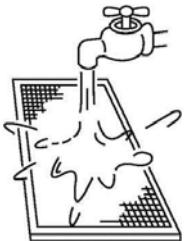

Fig 6-4
- *The air-in side should face down when using water. (See Fig. 6-4)*